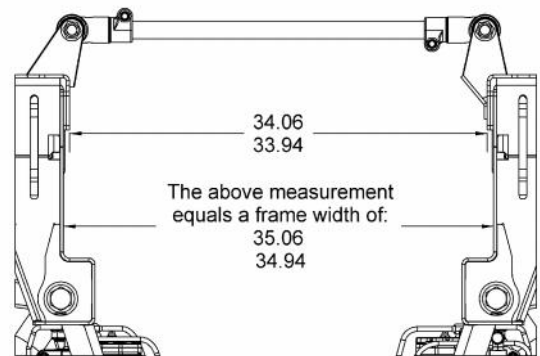

Figure 14 – Frame Width Measurement
3. Tilt the truck cab. Measure the frame width as shown in **Figure 14**. Adjust if not within specified range of between **33.94”** to **34.06”**. Once the width is within the range torque both clamp bolts to **125-145 Ft-Lb**. Lower the truck cab.